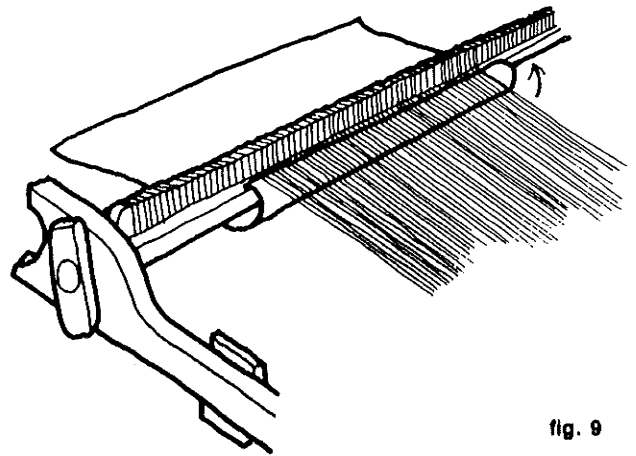

fig. 9
4. Wind warp onto the warp beam with heavy paper wound between the layers to maintain an even tension (fig. 9). To do this, insert the edge of the paper under warp loops. Loosen the tension knobs and rotate the warp beam one full turn. Stop, tighten the knobs, and